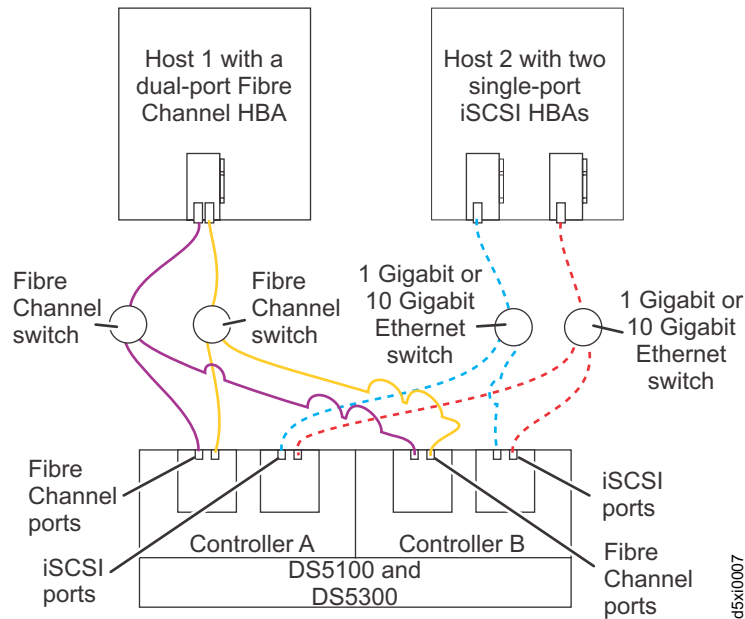

Figure 100. Example of a multiple-host, multiple-port, multiple-switch configuration
- Multiple-host, multiple-port, multiple-switch configuration, as shown in Figure 100 on page 147